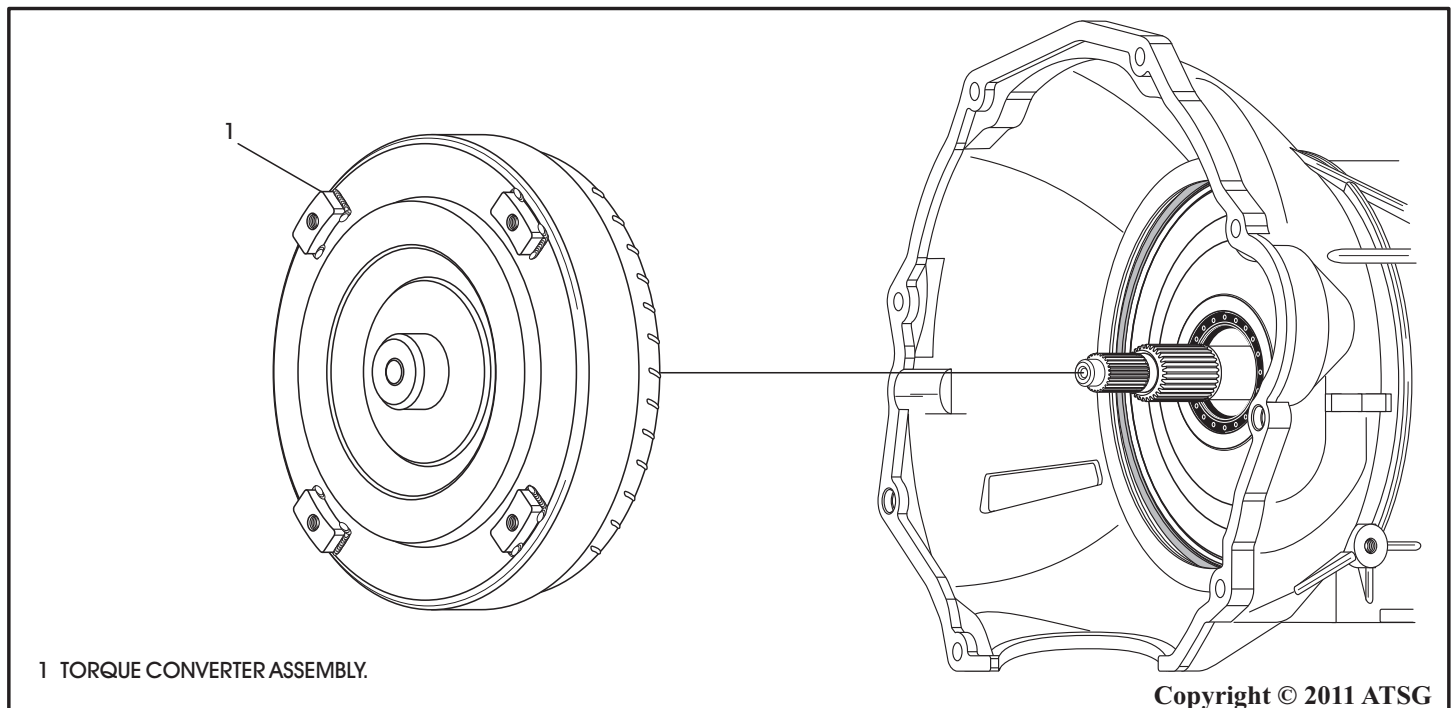

Figure 33
3. Remove torque converter from the transmission, as shown in Figure 33.